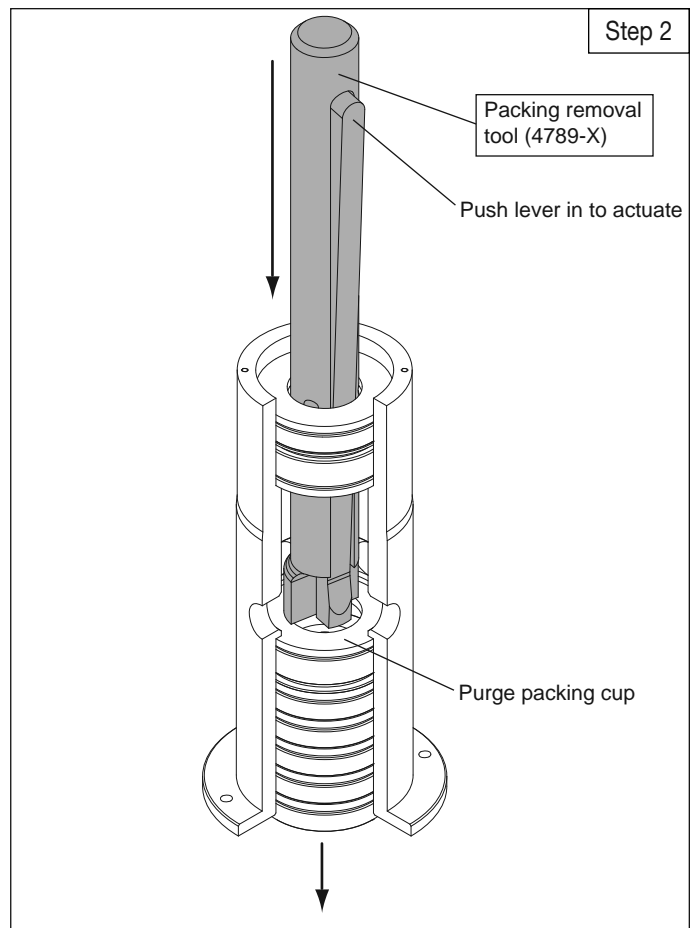

Figure 4.6B: Packing disassembly
- c. Insert Tool 4789-X into the packing cartridge body until the engagement end of the tool is just above the purge packing cup. See Figure 4.6B.